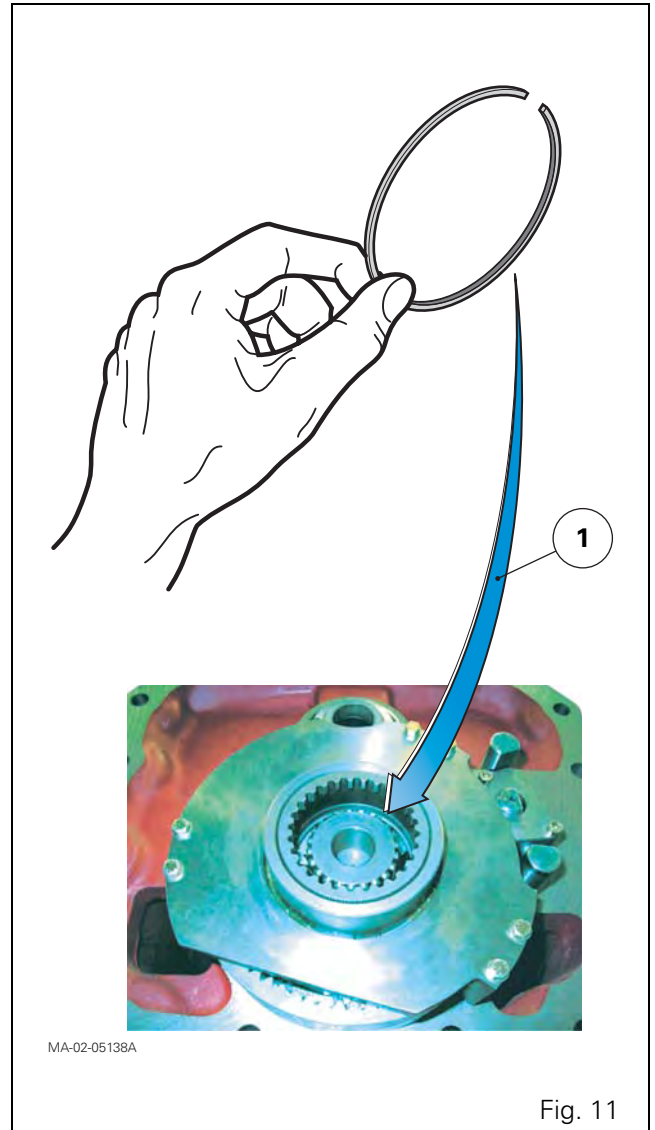

Fig. 11
- that the lock ring (1) is fitted to the gearbox output shaft (Fig. 11)